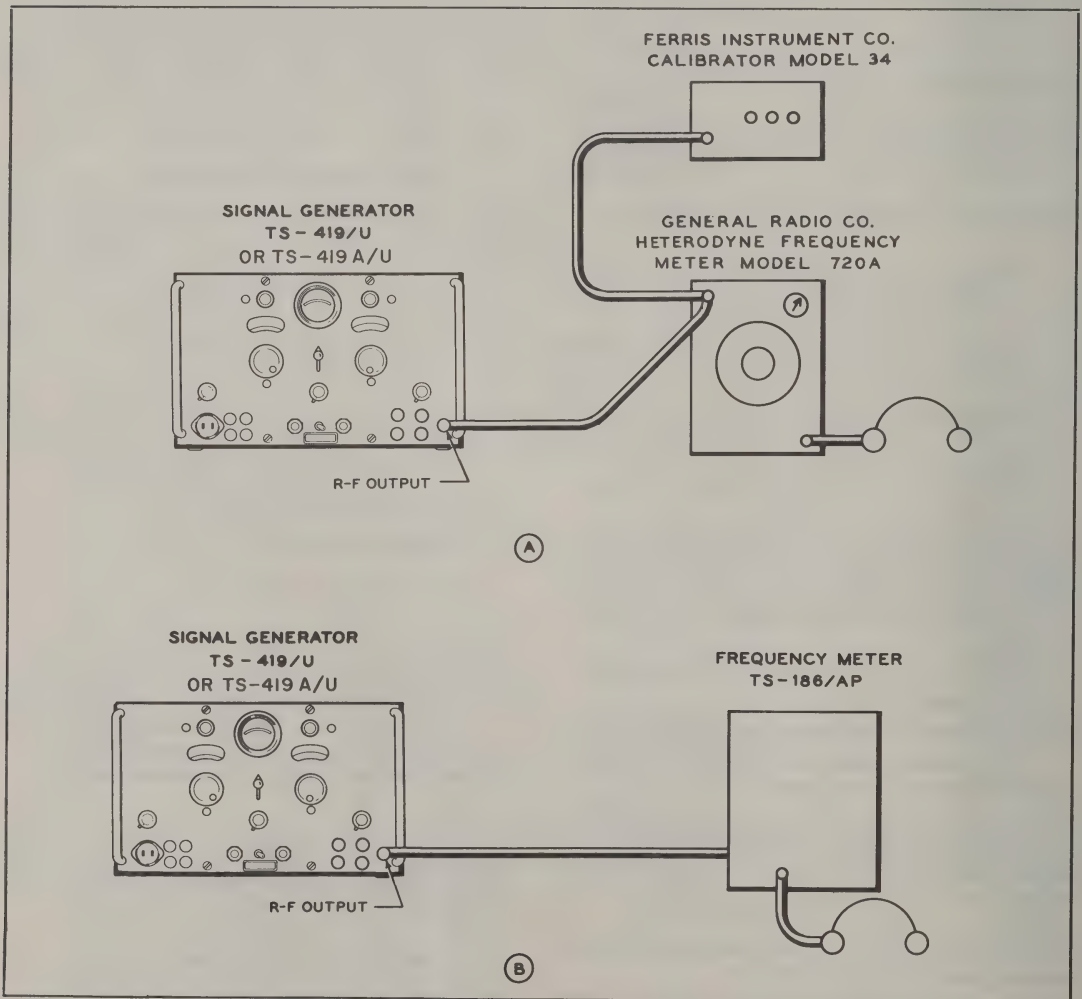

Figure 4-1. Test Connection Diagram for Measurement of Radio Frequency
(1) Connect Signal Generator TS-419/U and required test equipment as shown in part A or B of figure 4-1. The method of connection will depend on the test equipment in use.
(2) Turn on Signal Generator TS-419/U and allow